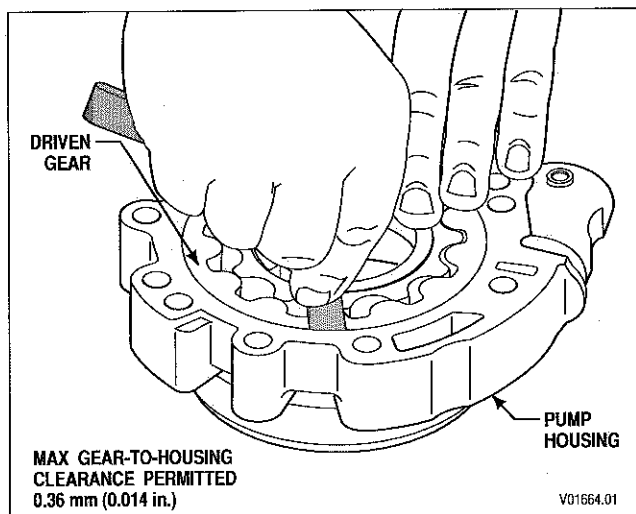

Figure 5-7. Measuring Driven Gear Clearance In The Pump Housing
18. Measure driven gear-to-pump housing (diametral) clearance (Figure 5-7). Maximum clearance permitted is 0.36 mm (0.014 inch).
19. If any measurement is out of specification, replace the pump housing and/or gear set 10 and repeat Steps (11) through (18).